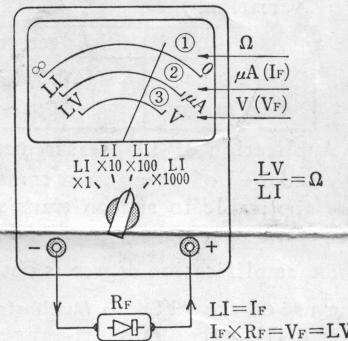

Fig. 1. Linear test of a diode.
The selector switch is set to the $R \times 1000$, or $R \times 100$, position where LI reads minimum. A germanium or silicon diode is connected as shown in Fig. 1. Since the linear resistance is being checked, the pointer will deflect very near to 0Ω , and R_F (forward resistance) is read on the top ohm scale ①.
The reading on the LI and LV scales by the connections of Fig. 1 tells the static characteristics of a diode as to how forward voltage is related with current.